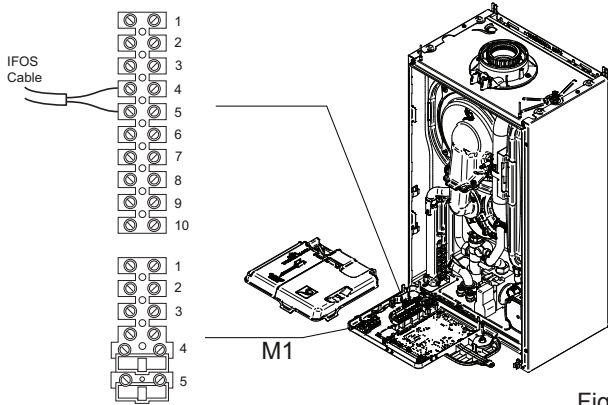

Fig. 36
2. Hinge down the control box and unclip the terminal block cover (Fig. 36).
3. Connect the IFOS cable to 4 & 5 of terminal M2 (Fig. 36).